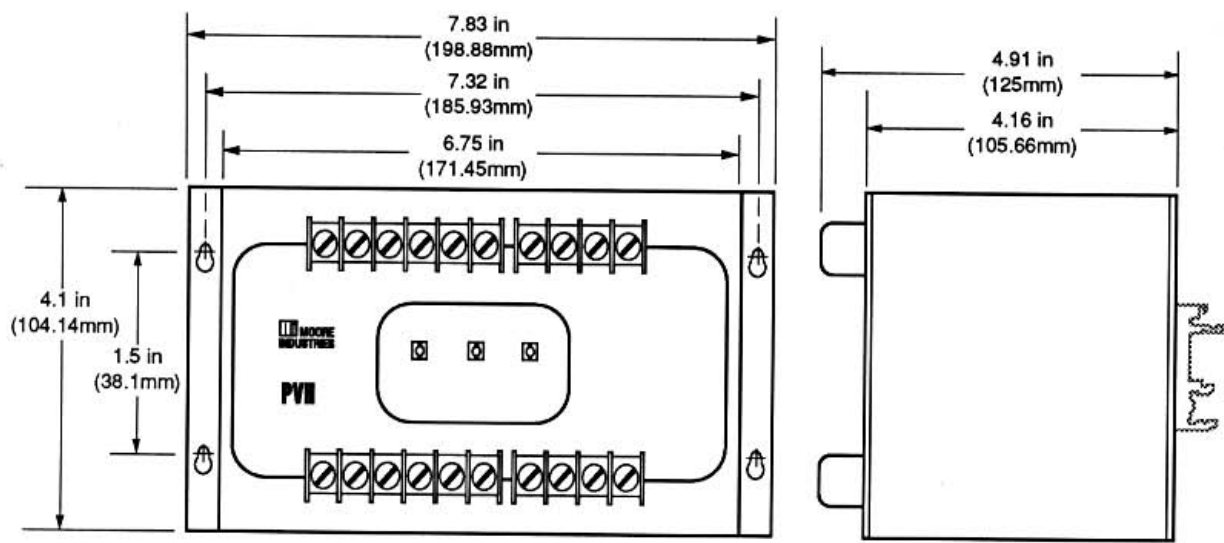
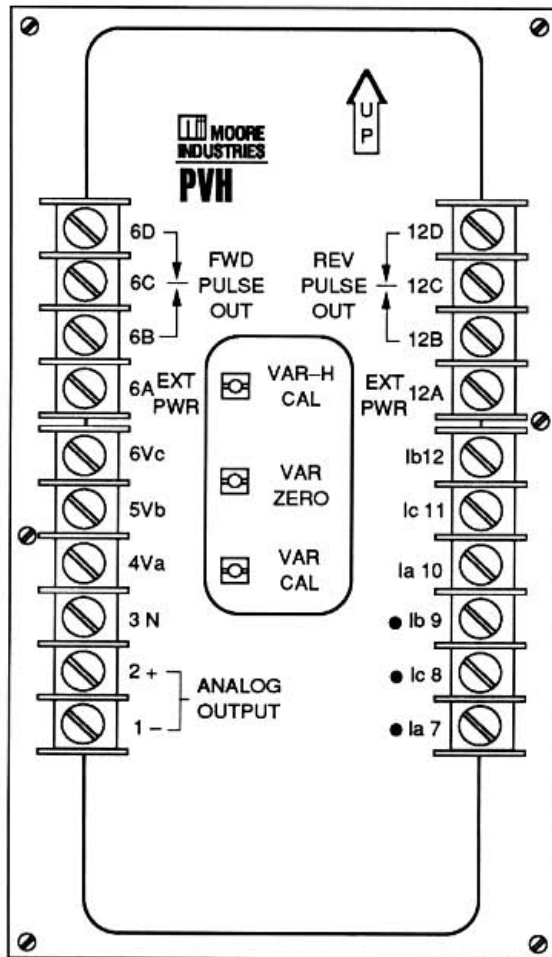

Figure 10. PVH Mounting Dimensions
Figure 11. Vertical Mount Front Panel (Example)
Depending on the housing style and options ordered, the PVH is either surface mounted (SM) or DIN-rail mounted (DM). Figure 10 contains the mounting dimensions for both these housing styles. When mounting the PVH, ensure it is mounted on a vertical plane in an area free of dust, moisture and corrosive elements.
given in figure 10. Figure 11 illustrates a 3-element, vertical-mount front panel, for reference purposes. Vertical-mount units are packaged in either an SM or DM housing.
SM units may be mounted on any vertical plane. However, it is recommended that the PVH be mounted on a surface that helps dissipate heat away from it, especially if the ambient temperature is unusually high. Surface-mount units have four keyhole cutouts in their mounting plate for easy mounting and removal (see figure 10).
DM units are designed for mounting on standard DIN rails. These units are equipped with two mounting clips on the back-side (see figure 10), which attach the unit to the rails; either 1.26-inch (32mm) or 1.38-inch (35mm) rails.
Terminal connections are made in the same relative positions for horizontal- and vertical-mount units. A vertical-mount unit is basically a horizontal unit that has been rotated 90 degrees to its left. Figure 11 illustrates the front panel of a 3-element, vertical-mount PVH. Vertically mounted units have relay outputs. The FWD PULSE OUT terminals 6B, 6C and 6D are all used for the relay output. Horizontally mounted units use terminals 6B and 6C for the solid-state output.